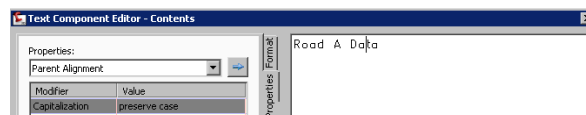

Figure 6-73 Entering **Road A Data** in the editor window
9. Delete the text from the **Text Component Editor** window and enter **Road A Data** in the editor window, as shown in Figure 6-73.